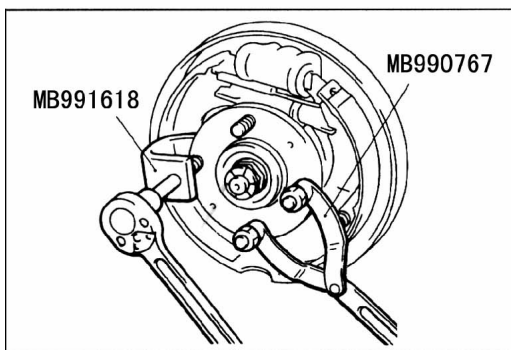

Fig.13-3
- (1) remove the brake drum.
- (2) use the special tools to remove the hub bolts. (see Fig.13-3)。